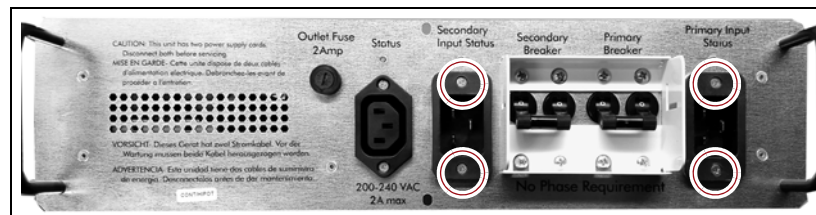

Figure 235 Remove the screws securing the input plugs to the AC power module.
6. Using a #2 Phillips screwdriver, remove the two screws securing each of the two input plugs to the dual AC module (circled in Figure 235).